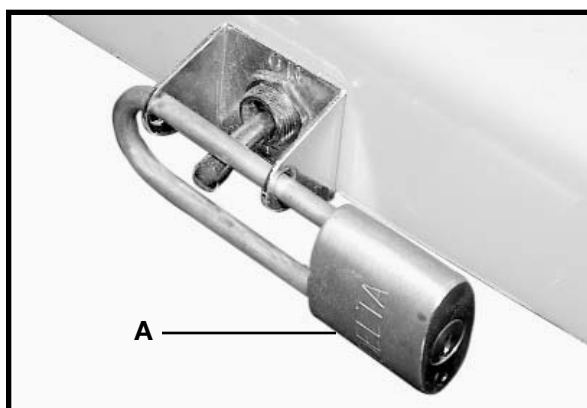

Fig. 8
3. **IMPORTANT: When the tool is not in use, the switch should be locked in the "OFF" position to prevent unauthorized use, using a padlock (A) Fig. 8 with a 3/16" diameter shackle.**